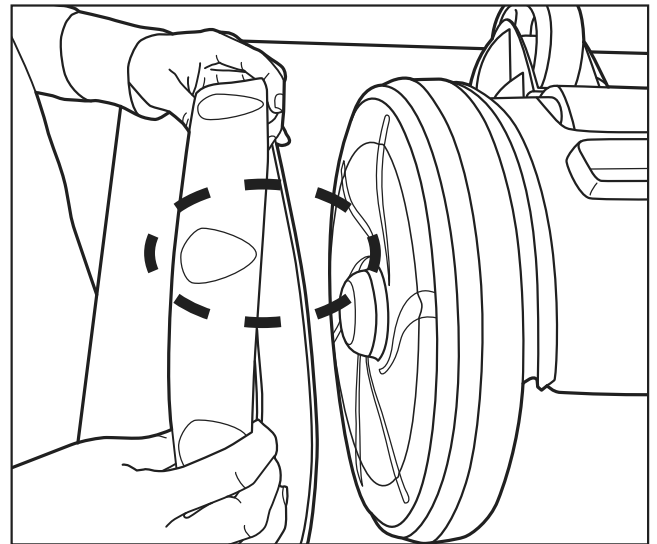

Figure 19. Tire Replacement Orientation
3. To replace the tire, position the new tire on the wheel making sure to orient the tire so that the tire groove pattern is on the outer side of the wheel. See Figure 19.